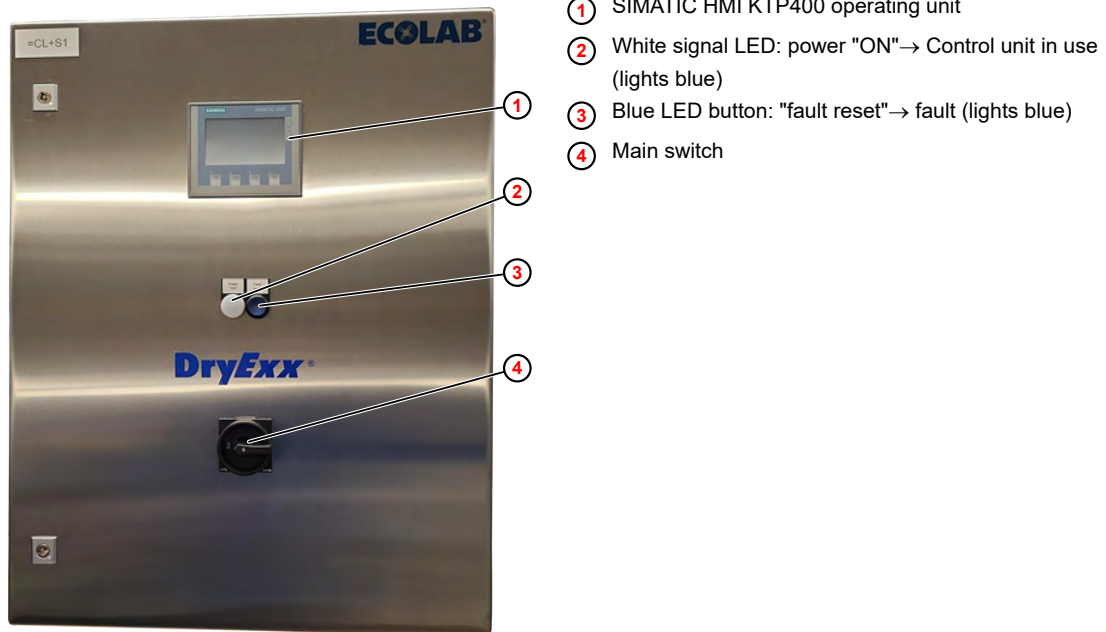

Fig. 10: DryExx® Advanced - controls
1. ➤ Switch off the main switch (Fig. 10 , ④) on the control cabinet.
2. ➤ Switch on the main switch (Fig. 10 , ④) on the control cabinet.
- ⇒ The LED ② lights.
- ⇒ After a successful system startup, the home screen appears on the control cabinet display ① .
3. ➤ Acknowledge the error message on the control unit display by pressing the illuminated button ③ .